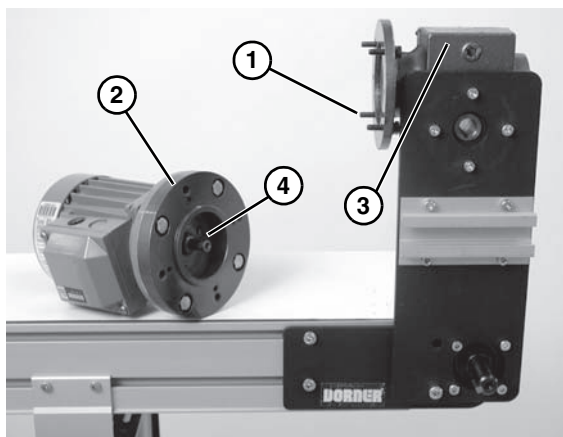

Figure 23
4. Remove four (4) screws (**Figure 23, item 1**). Detach motor (**Figure 23, item 2**) from gear reducer (**Figure 23, item 3**). Retain motor output shaft key (**Figure 23, item 4**).